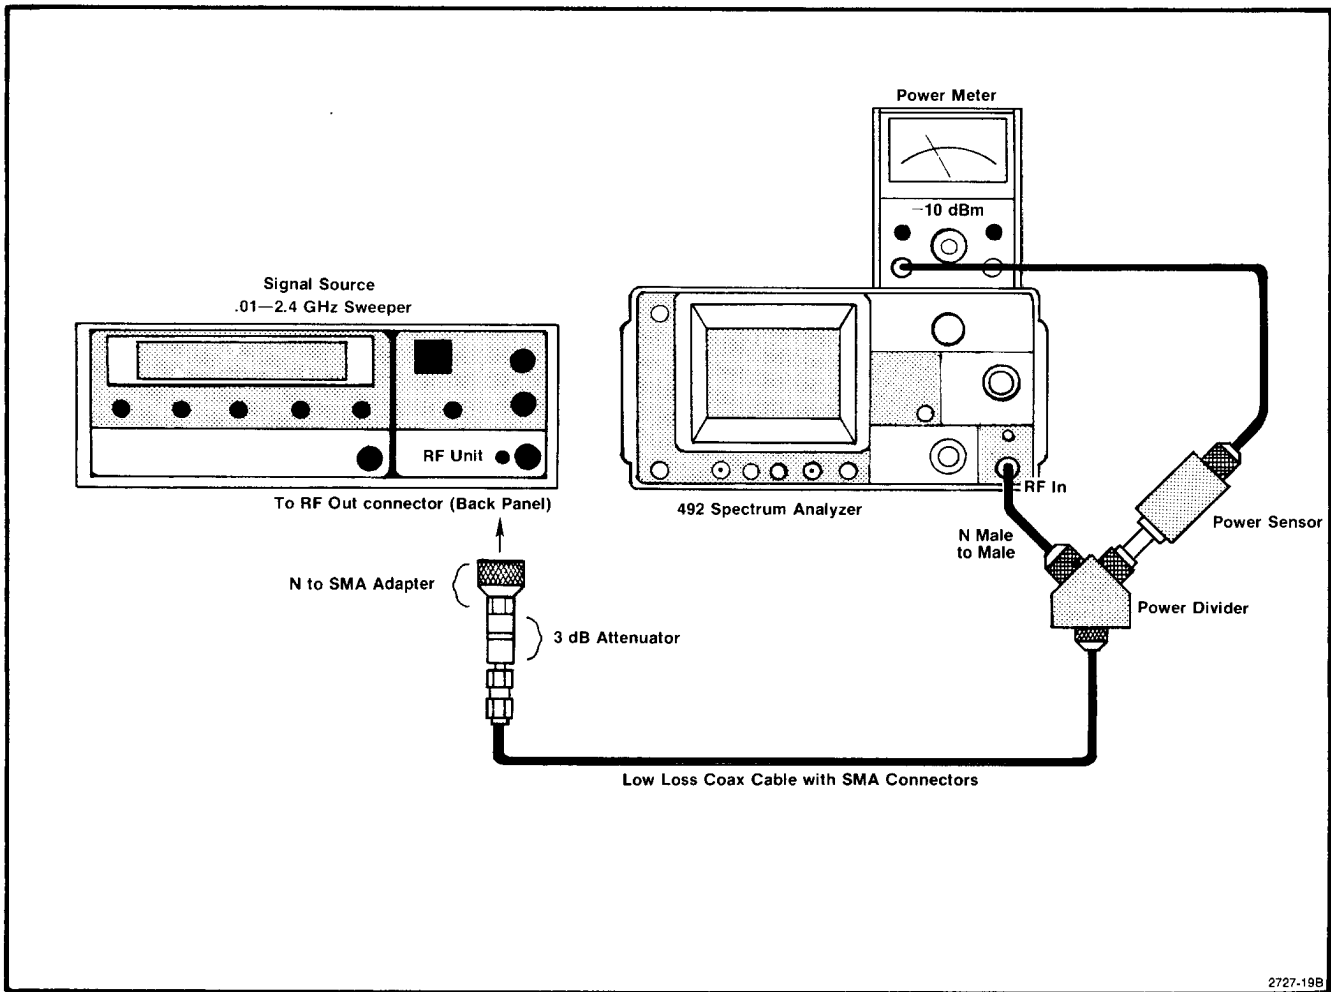

Fig. 3-5. Test equipment setup for measuring the 0.01—2.0 GHz frequency response.
e. Remove the 10 kHz to 10 MHz signal source and connect the output of a 0.01 to 2.4 GHz generator to the RF INPUT (see Fig. 3-5). The output of the sweep generator is applied through a 3 dB attenuator and a semi-rigid high performance coaxial cable to a power divider. Connect one output of the power divider directly to the 492/492P RF INPUT and the other to the power sensor unit for the power meter. Ensure that all connections are snug.
e. Replace the 100 kHz to 10 MHz signal source with a 0.01 to 2.4 GHz sweep oscillator and connect the test equipment as shown in Fig. 3-5. The output of the sweep generator is applied through a 3 dB attenuator and high performance coaxial cable to a power divider. Connect one output of the power divider directly to the RF INPUT and the other output to the sensor for the power meter.